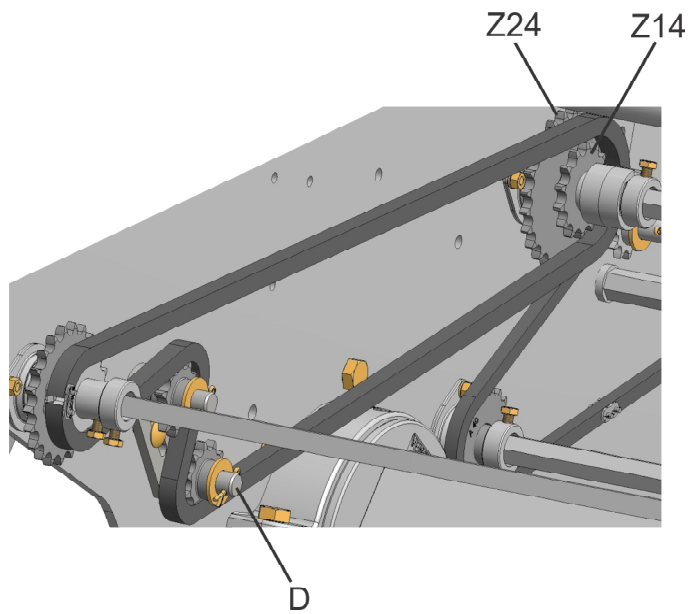

fig. 08
Keep the chain stretched through the stretcher (D), (fig. 08). Use sprockets **Z24** and **Z14** as an additional option for adjustments, making the necessary changes.